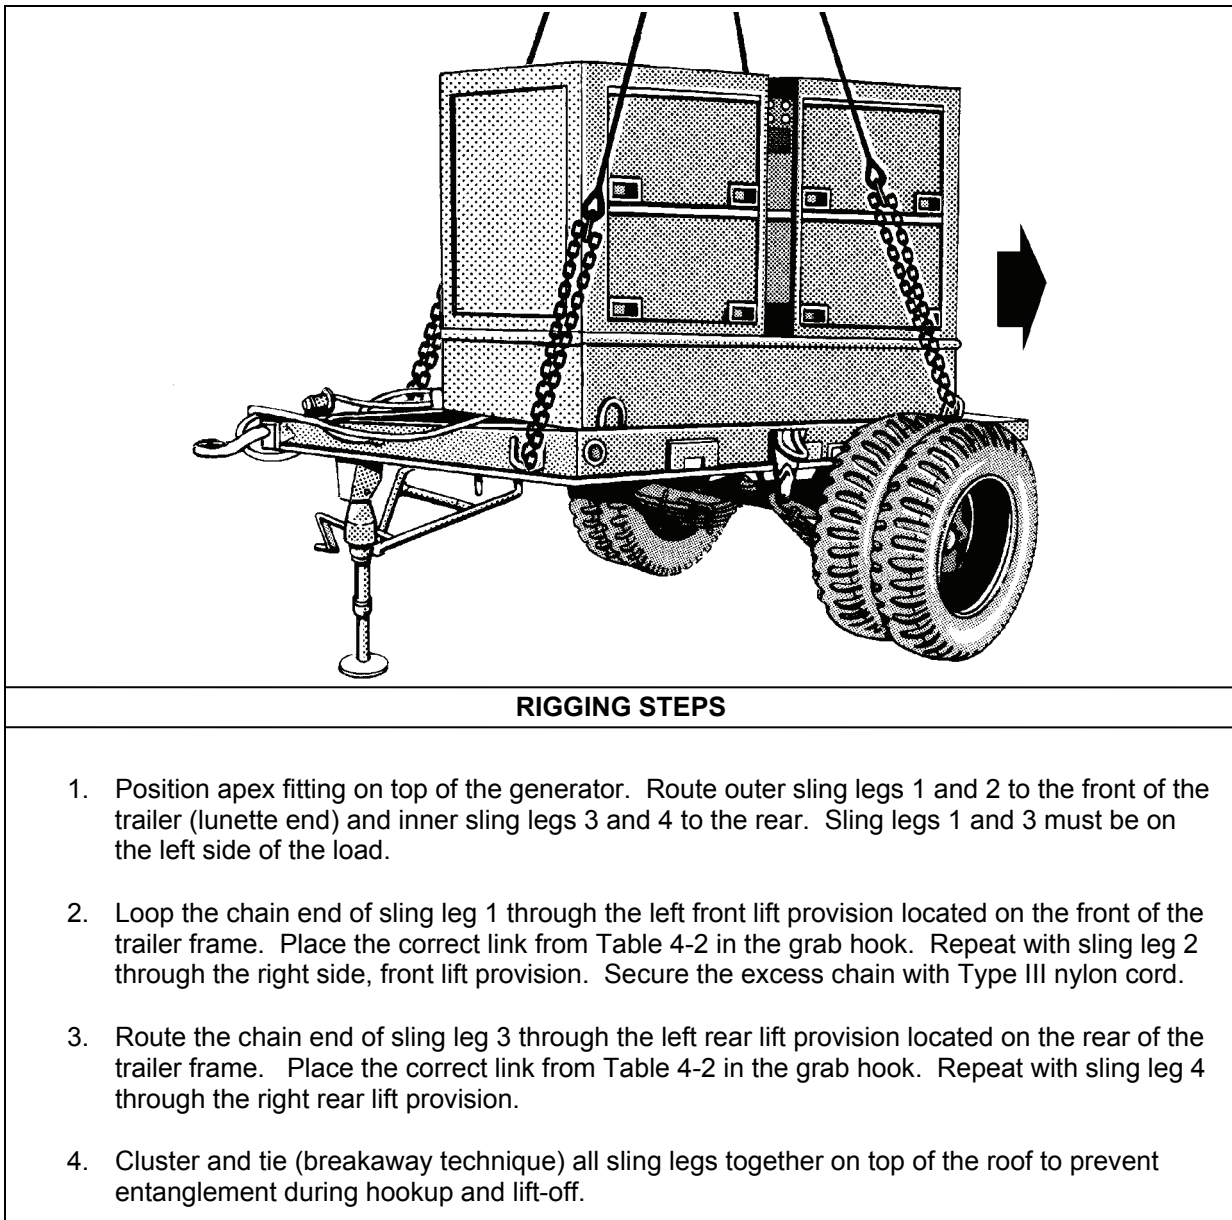

Figure 4-2. M200A1 Trailer-Mounted Power Units, Generators, and Power Plants
- **Rigging.** Rig the load according to the steps in Figure 4-2.